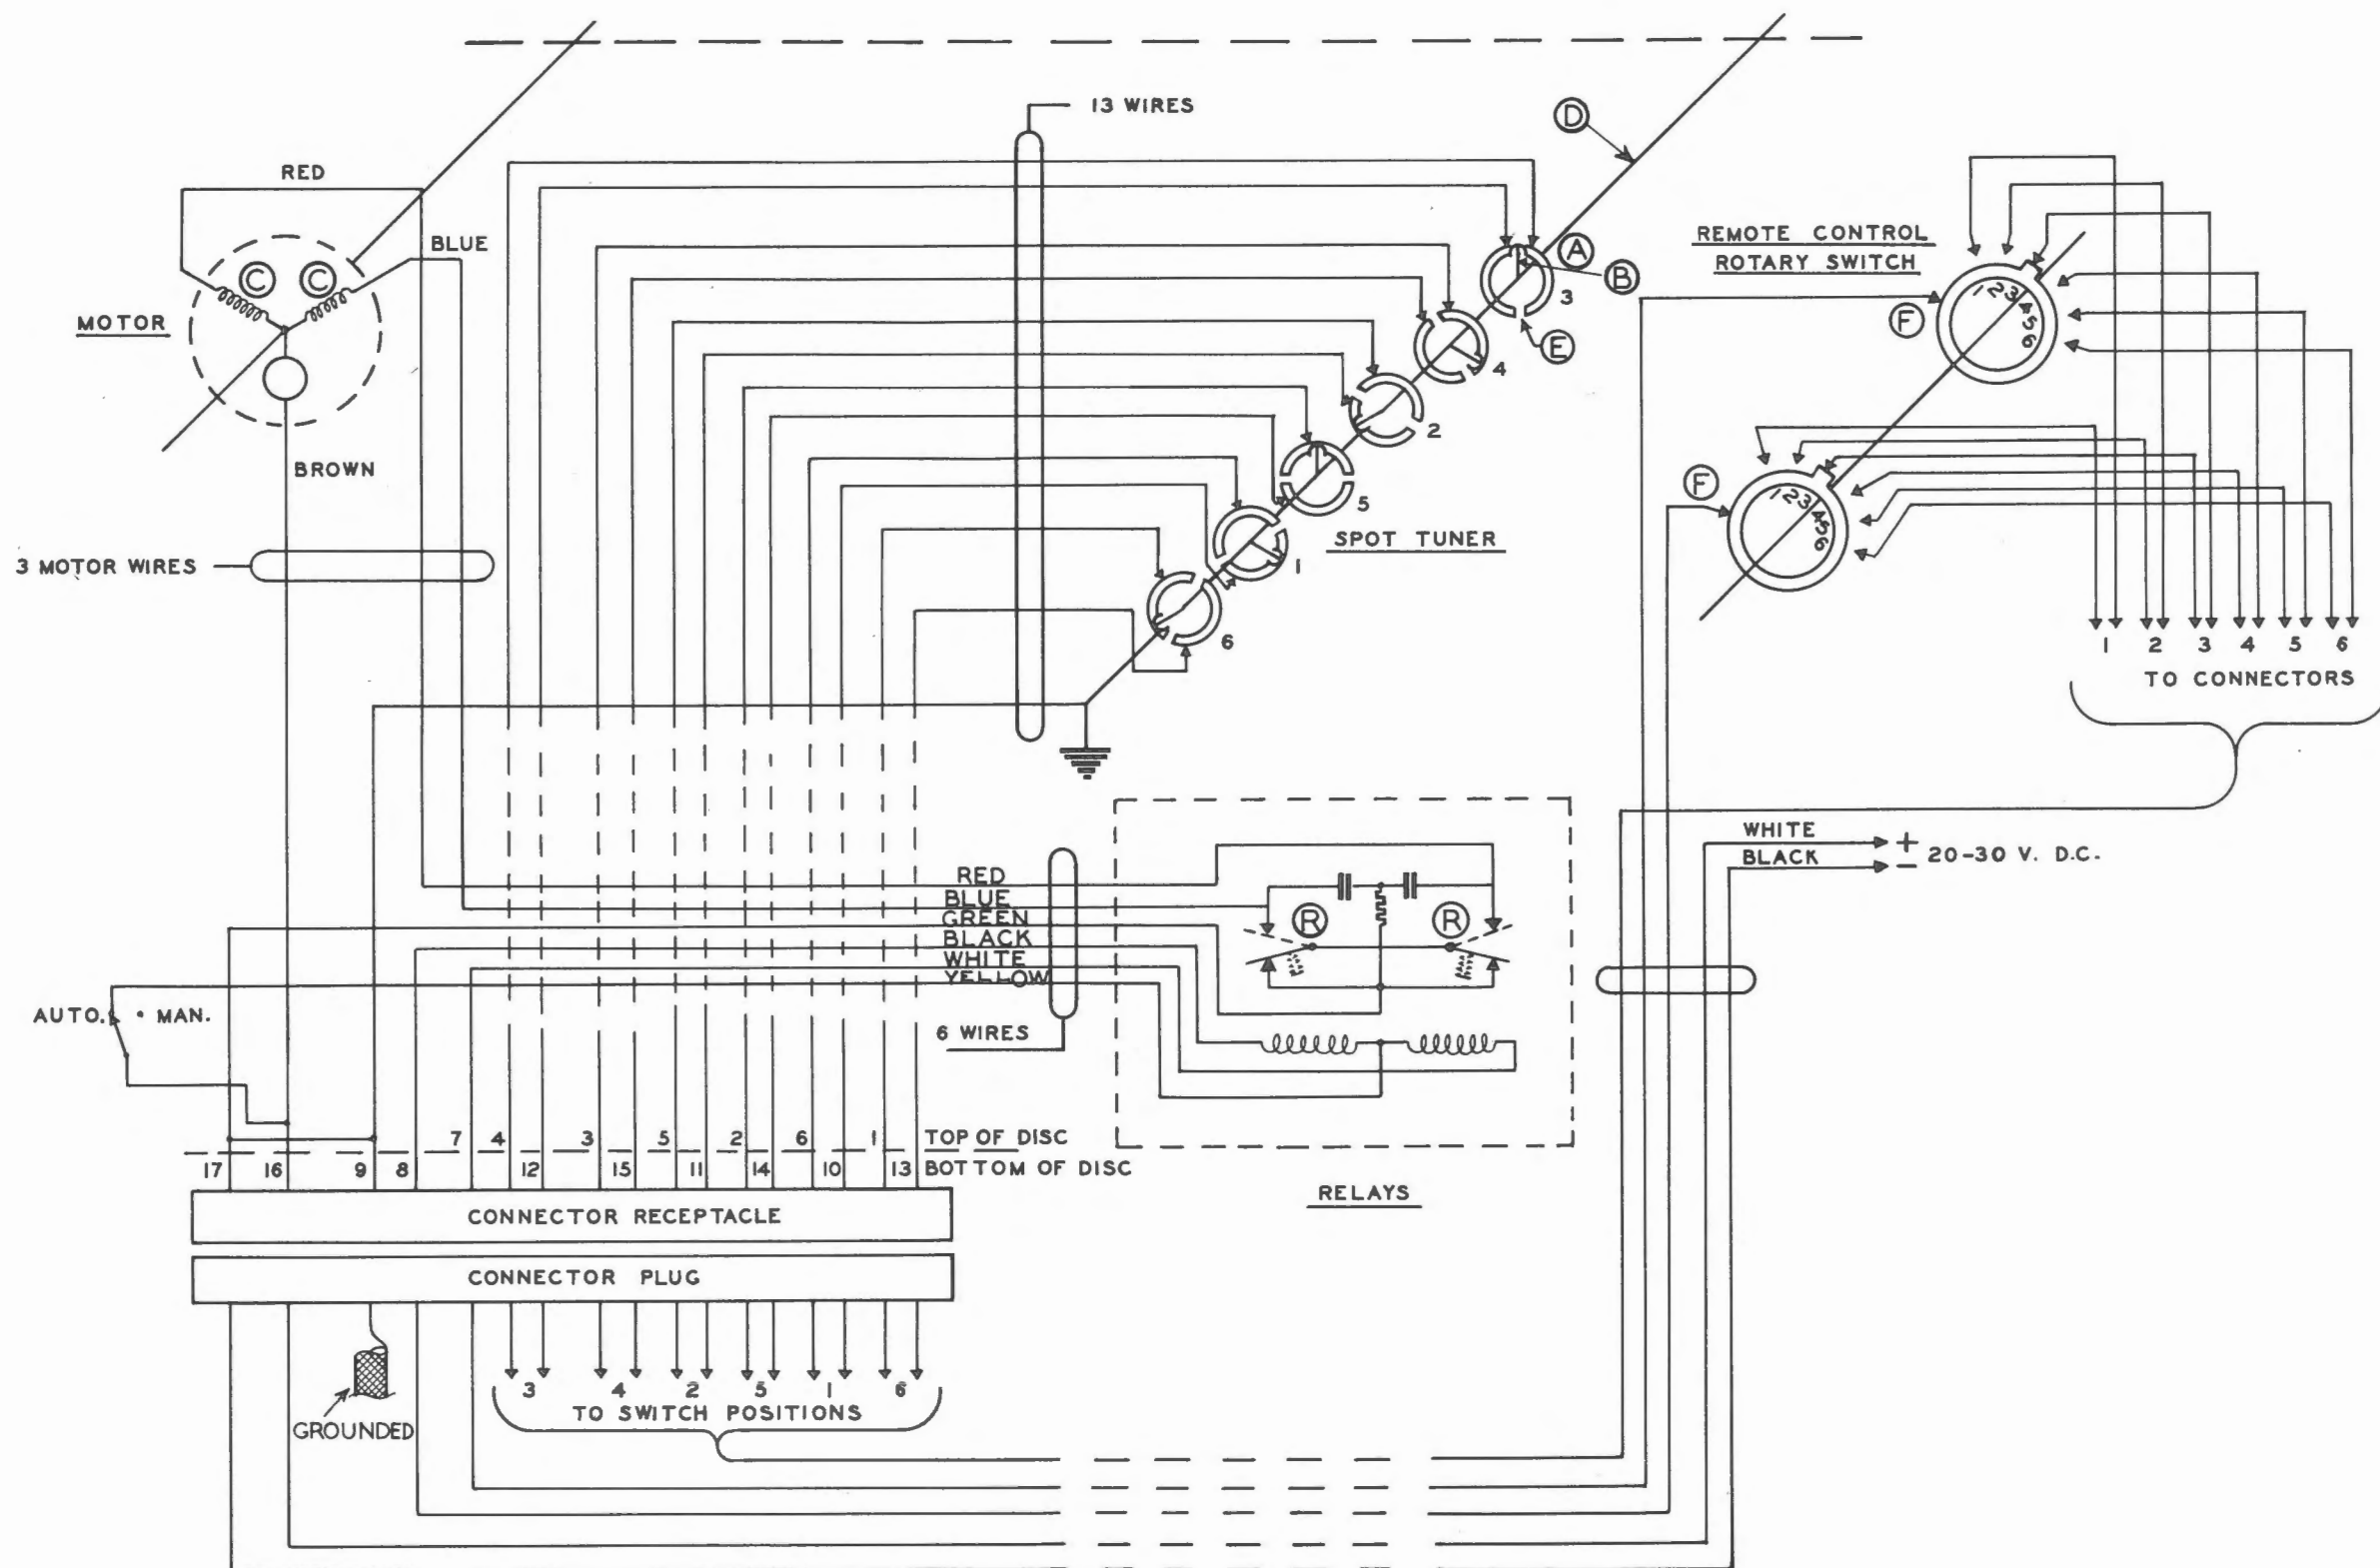

Figure 24 — Diagram of Tuner Operation and Connections
be energized, interrupting the motor circuit and causing the motor to stop in that particular position. This condition will prevail until the remote control switch is set for another channel causing the motor to move and tune the condenser for the newly chosen channel. Great accuracy in the positioning of the tuning condenser is attained due to the particular construction of the selector disc elements and also by the use of a clutch suppressing hunting of the motor when the gap (E) is closed in the exact reset position. The clutch is not shown in the diagram Fig. 24.
(See Figure 24)
the reversing windings (C) and the relays (R). The remote control switch has six positions, each position provided with a set of two contacts and 2 common contacts. Each contact is connected to a corresponding segment (A) of the six selector discs. In wiring, the selector switch contacts, the two conductors of the power supply line and, if an armoured cable is used for the wiring, the outer metal braid (ground) of this cable are connected to the connector plug as shown in the diagram Fig. 24. The connector plug carries numbers at the beginning and end of each row of connector contacts which correspond to the numbers as shown in the diagram Fig. 24.